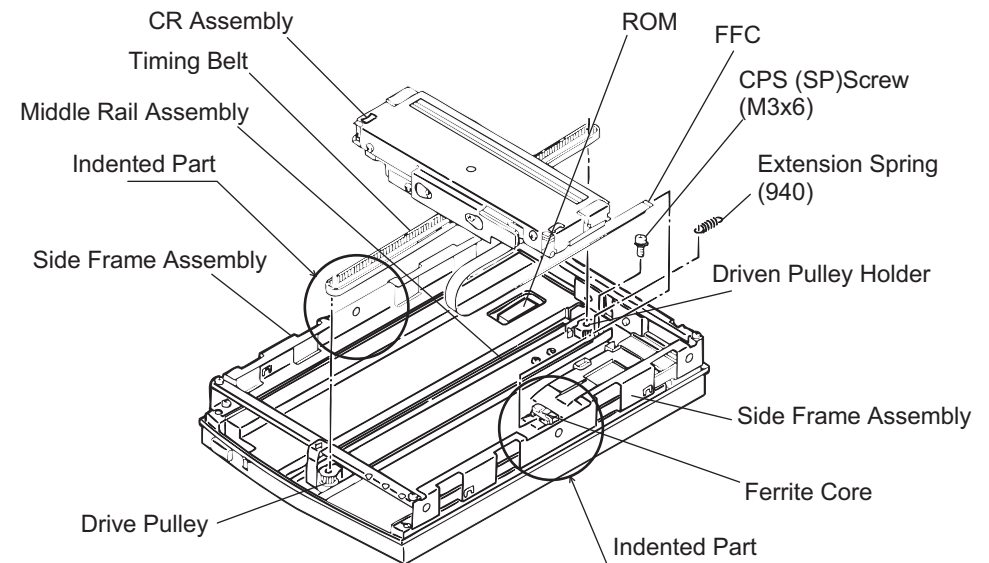

Figure 4-4. CR Assembly Removal
2. Remove the ROM. (See Figure 4-4.)